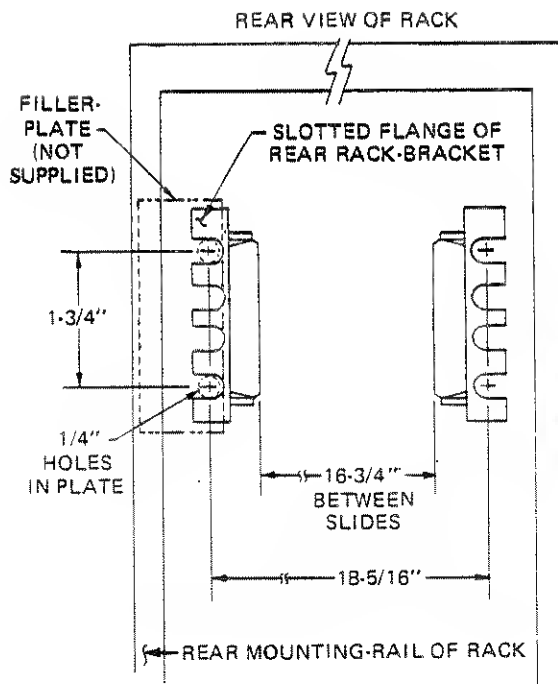

Figure 2-8 - Rear End Slide-Mount Rack Dimensions
- f. The distance between the two slide-mount assemblies at the rear-bracket should be 16 5/8 inches. Should a filler plate be required to secure the slide-mount assembly to the rear rack mounting-rail at 16 5/8 inches, use the dimensions given in Figure 2-8 to determine filler-plate size